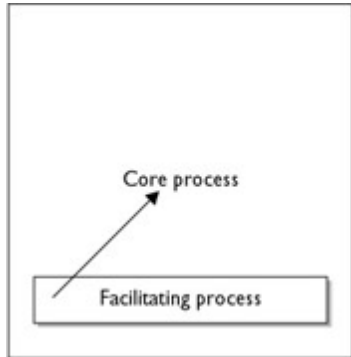

Figure 3-6: Facilitating processes support core processes.
- Facilitating processes** These activities are more flexible than the core processes, and their involvement in the project are not as stringent. Although these processes are flexible, they are not considered optional activities. You can think of the facilitating processes as supportive actions within a process, as shown in Figure 3-6.